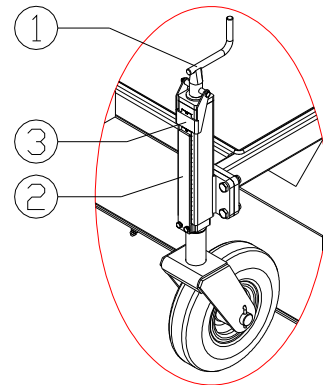

Figure 8
The working depth of the brush can be adjusted by adjusting the front wheels by turning the spindles (1) at the front side of the machine (See Figure 8).